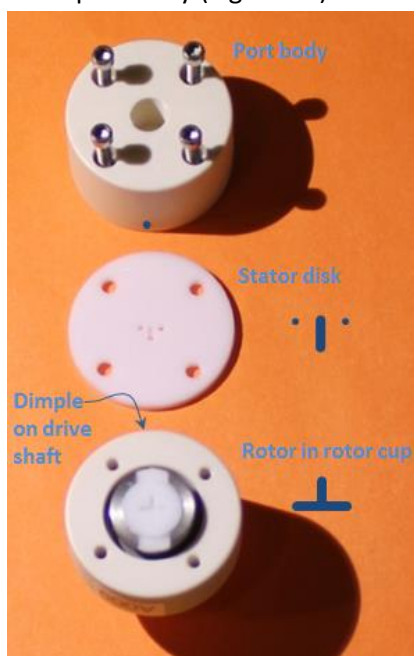

Figure 14: Orientation of stator disk and rotor
6. Orientate the new stator disk so that the three holes are facing the rotor and the channel on the back side of the stator disk points at the orientation dot on the side of the valve and faces the valve port body (Figure 14).
4. If it is in the valve and the valve has been disassembled, ensure that the valve has been properly assembled (refer to Figure 14). When the motor is in the digital output "0" or off state, the dimple on the drive shaft should be 180° from the orientation dot on the side of the valve and the channel on the back of the stator disk should be pointing away from the orientation dot on the side of the valve. The stator disk has the side with the three holes (no slot) orientated towards the rotor.